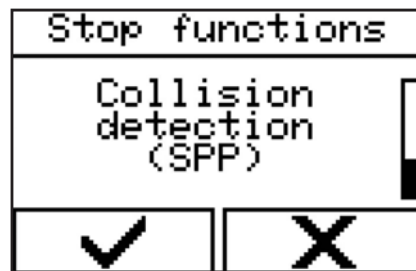

Figure 109 - Selecting a menu
- The main menu for the hand switch is displayed ➞ Figure 109
1. Select the menu via 'Control' → 'Stop functions' → 'Collision detection' (Figure 109).